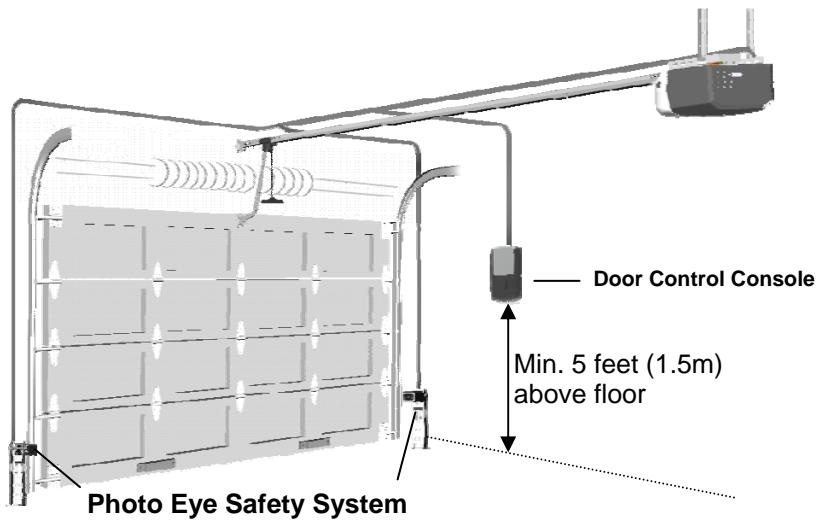

Fig. 2
2. To connect a wire to an assigned terminal, use a small "flat head" screwdriver to push in the orange tab on the Wire Terminal as shown in Fig.2.
3. Insert approximately 1/2" (13mm) of the wire into the terminal while pushing in the tab as shown in Fig.2.
4. Each accessory requires a pair of terminals. Each pair of terminals MUST be connected with one white wire and one striped wire (non-polarized) from the SAME accessory as shown in Fig.2.